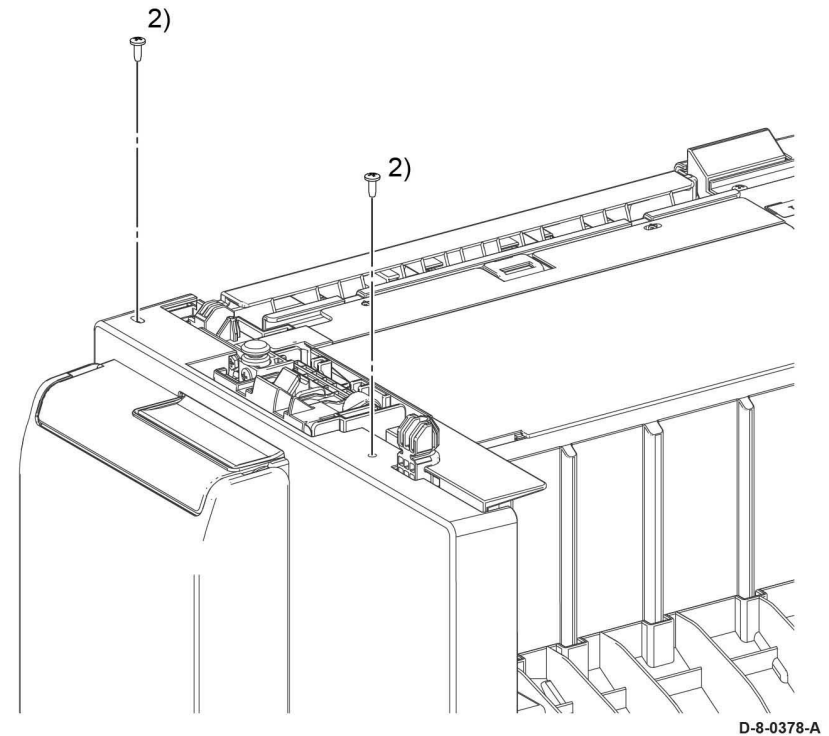

Figure 1 Right hand cover bottom screws
2. Remove two screws, ST20, Figure 1.